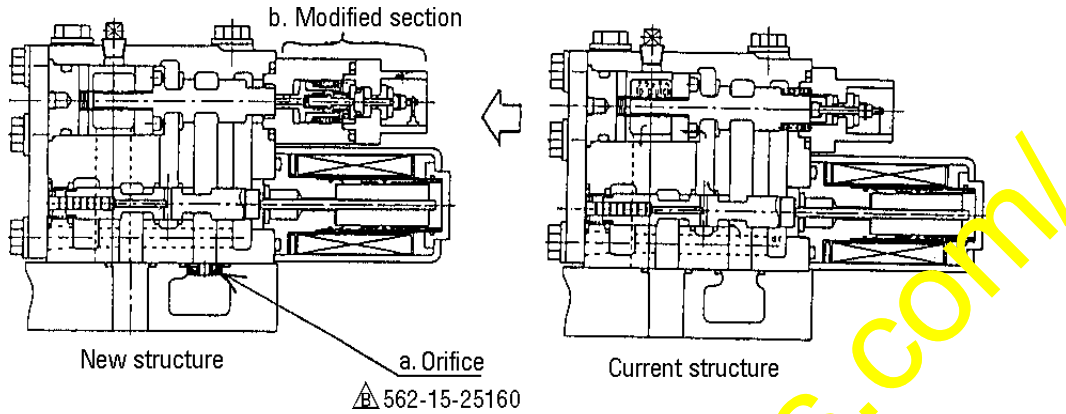

Fig. 1-1
- a) An orifice has been supplemented for the purpose of suppressing the peak pressure occurring when the filling is completed. (Refer to Fig. 1-1.)